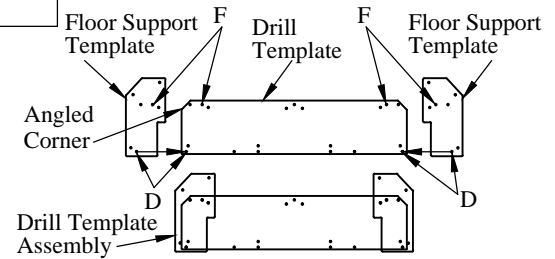

Figure 4: Drill template assembly.
2. **Bolt** the floor support templates to the drill template (Figure 4).